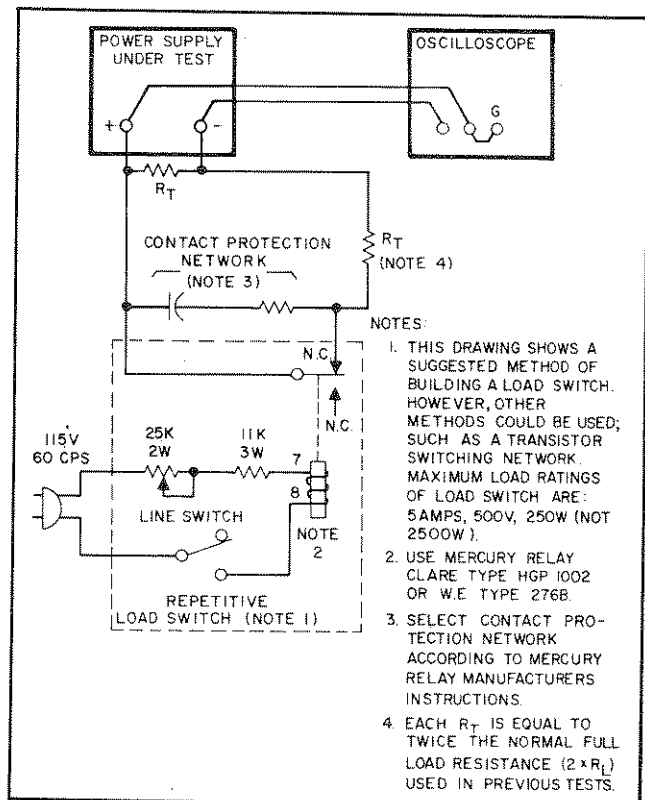

Figure 5-5. Load Transient Recovery Time, Test Setup
5-30 **Measurement Techniques.** Care must be taken in switching the load resistance on and off. A hand-operated switch in series with the load is not adequate since the resulting one-shot displays are difficult to observe on most oscilloscopes and the arc energy occurring during switching completely masks the display with a noise burst. Transistor load switching devices are expensive if reasonably rapid load current changes are to be achieved. Instead, a mercury-wetted relay should be used for loading and unloading the supply. Connect it in the load switching circuit shown in Figure 5-5. When this load switch is connected to a 60 Hz ac input, the mercury-wetted relay will open and close 60 times per second. The 25K control adjusts the duty cycle of the load current switching to reduce jitter in the oscilloscope display. This relay may also be used with a 50 Hz ac input.
- a. Connect the test setup shown in Figure 5-5. Both load resistors ( $R_T$ ) are twice the normal value of a full load resistance.